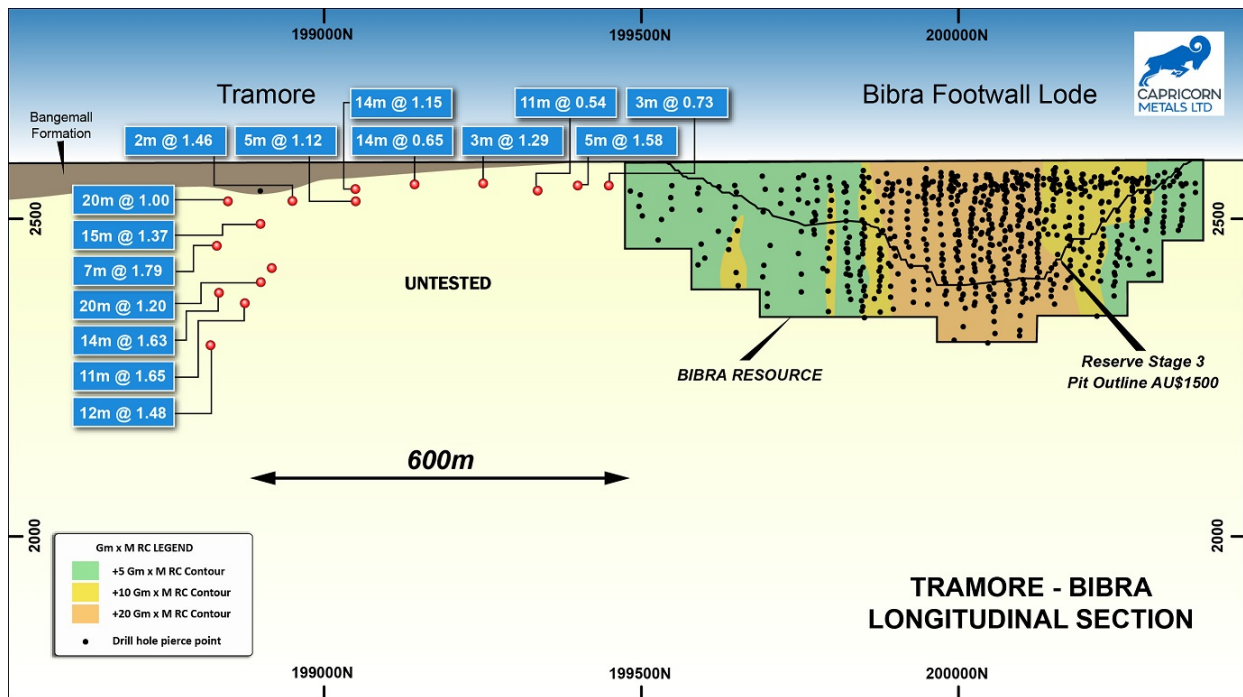

Figure 3: Longitudinal Section: Bibra Gold Deposit to Tramore Prospect
- The RC drilling has delineated a consistent 10-20m wide mineralised horizon that dips gently ($\sim 30^\circ$) to the west and is interpreted to be the extension of the Bibra Mineral Resource Main Footwall Lode (Figures 3 and 4).